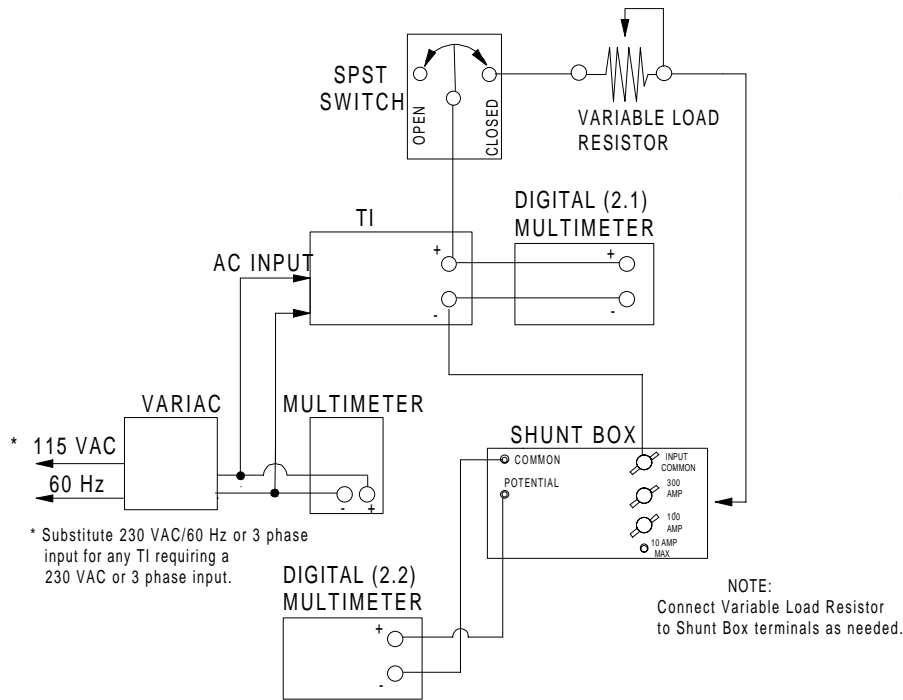

Figure 1.
4.1.1 Connect test equipment as shown in Figure 1.